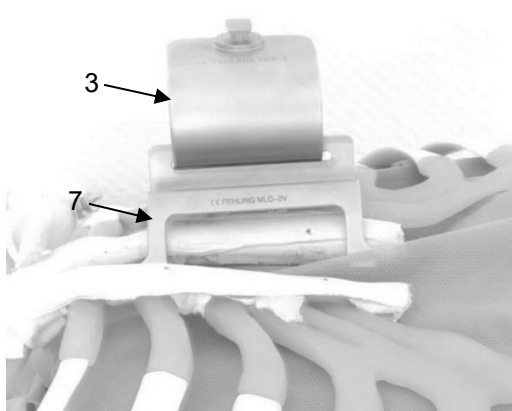

Fig. 10
1. Insert the IMA blade (3) in conjunction with the IMA retaining blade (7) into the sternal saw gap (Fig. 10).